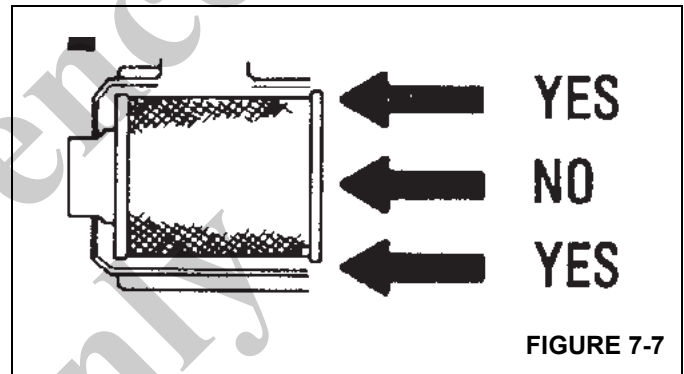

FIGURE 7-7
- b. **INSERT THE FILTER PROPERLY.** The seal area is on the inside of the open end of the primary filter. A new filter has a dry lubricant to aid installation. The critical sealing area will stretch slightly, adjust itself and distribute the sealing pressure evenly. To complete a tight seal, apply pressure at the outer rim of the filter, not the flexible center. No cover pressure is required to hold the seal (Figure 7-7).